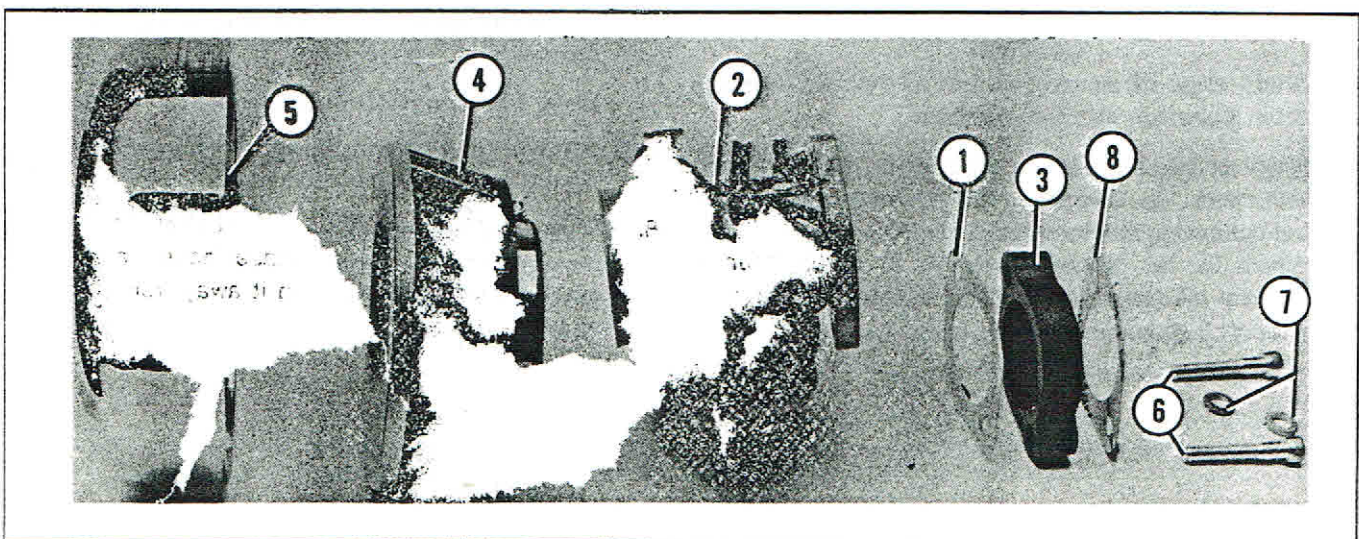

Figure 1. Carb installation
3. See Figure 1. Attach manifold spacer (3) and carburetor assembly (2) to manifold using bolts (6) and washers (7). Place gasket (1) (from carb kit) between the spacer and the carb. Place gasket (8) between the spacer and the manifold. Tighten bolts (6) to 10-14 ft-lbs torque.